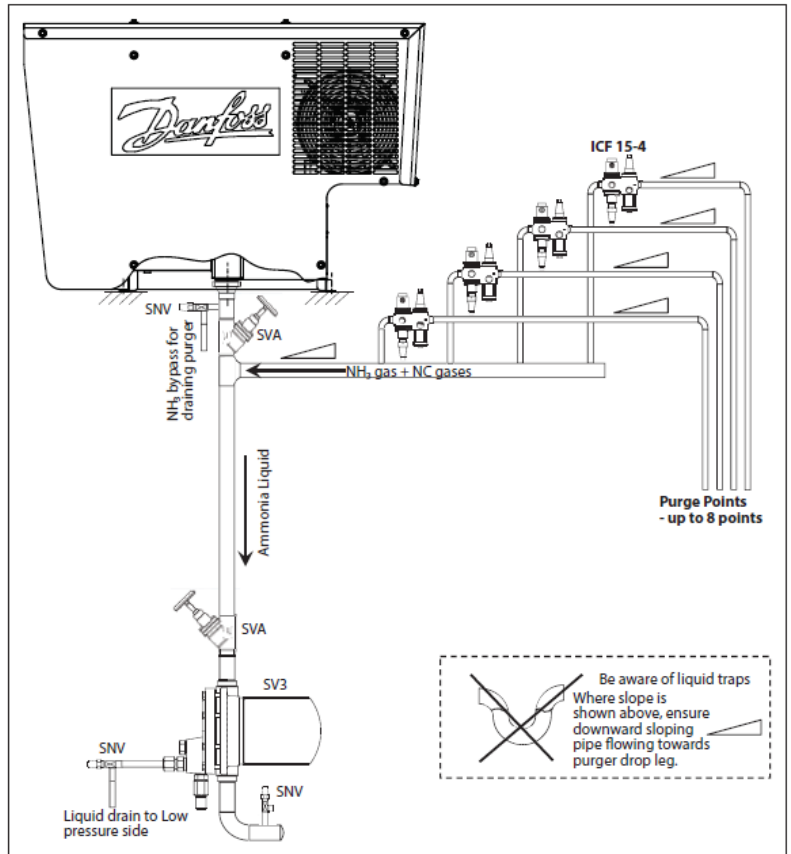

Fig. 10 Multi-point purging from up to 8 purging points
- As factory default, the Danfoss IPS 8 is configured to manage up to 8 purge points. (Multi-point purging. See Fig. 10).